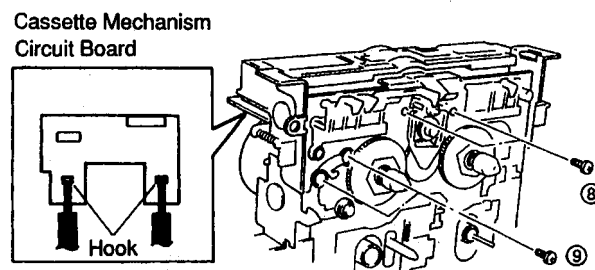

Fig. 8
- a. Remove 2 screws (⑧) in Fig. 8 and then remove the Capstan Motor.
- b. Remove 2 screws (⑨) in Fig. 8 and detach 2 hooks of the Cassette Mechanism Circuit Board, then remove the Reel Motor.